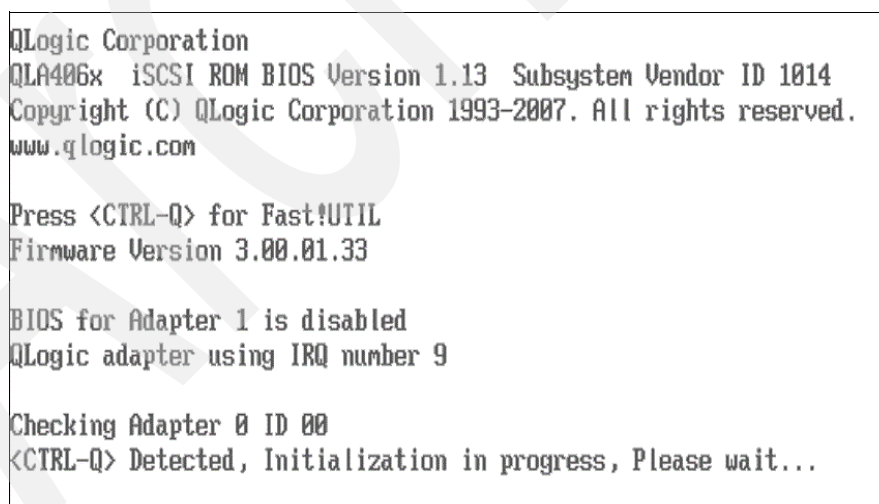

Figure 5-58 QLogic Corporation Fast!UTIL window
1. On server startup and when you are prompted to launch the *QLogic Corporation* iSCSI BIOS, as shown in Figure 5-58, press the Ctrl+Q keys.